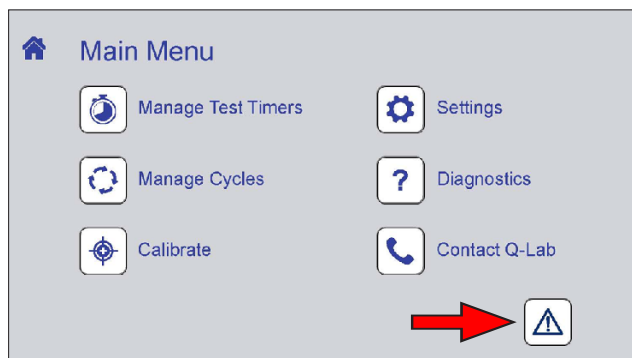

Figure 9.4a: The notifications icon. Icon color changes depending on notification status.
- On the Main Menu screen, touch the notification icon to display the Notifications Screen (Figure 9.4a).